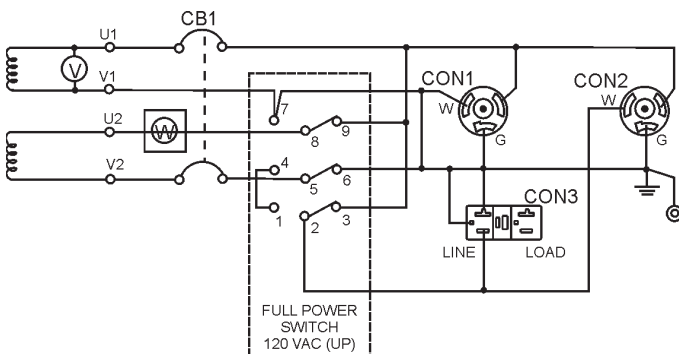

Figure 3B. Full Power Switch 120VAC (Up) Simplified Wiring Diagram
4. **Full Power Switch** – This generator is provided with a full power switch. Figures 3B and 3C show simplified wiring diagrams of the dual voltage system. When the full power switch is in the 120 volt (up) position, you can take up **full rated power** of the generator at 120 volts from the GFCI duplex receptacle, 120 volts at the 120 volt twist-lock receptacle, or a combination of both receptacles as long as the total load does not exceed the generator's capacity.